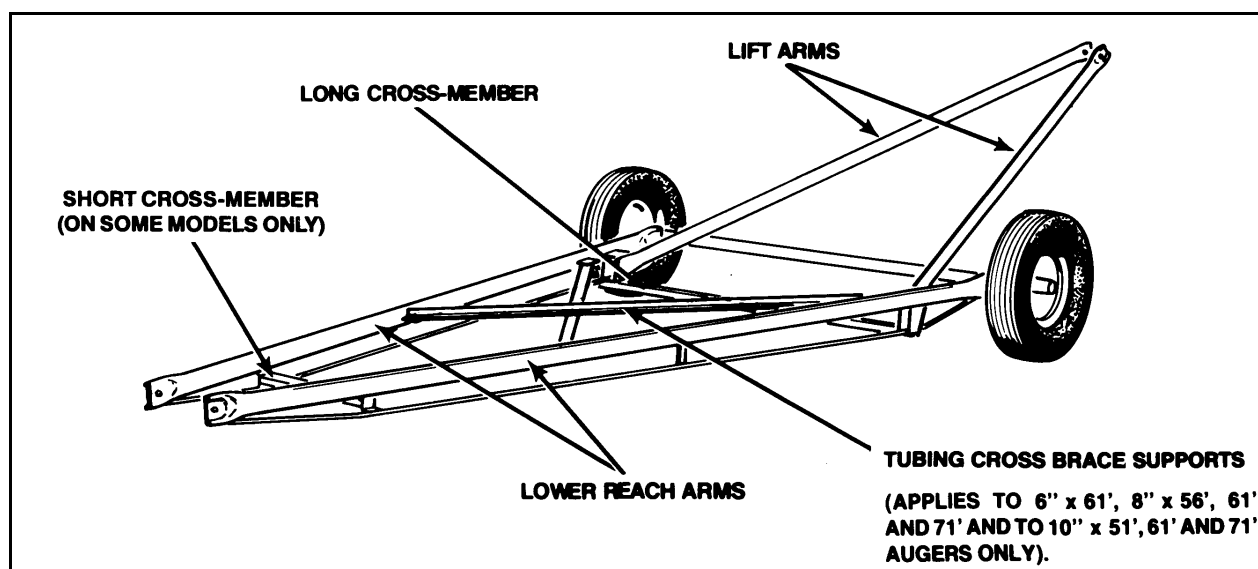

Figure 3.15
- Attach long crossmember to bottom of undercarriage brackets as shown in Figure 3.15, with two 7/16" x 1" bolts and locknuts.